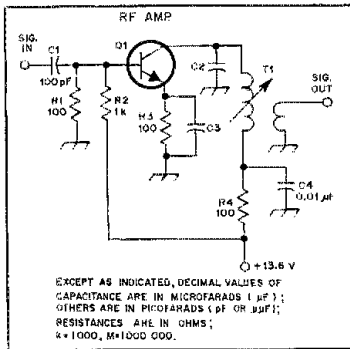

Fig. 1 — Example of a simple rf amplifier for text discussion.
1) Phase 1 calls for visual inspection of the components that are related to the stage being examined. We will inspect the resistors for discoloration or fine cracks. A magnifying glass or jeweler's loupe is practically mandatory for this part of the check. A discolored resistor usually means that excessive current has been flowing in that branch of the circuit. Discoloration or cracking is caused by overheating of the component. These defective resistors are apt to change value significantly or become open-circuited. This prevents the correct operating voltage from reaching the tube or transistor. Fig. 1 illustrates a simple rf amplifier that could have one or more defective resistors. Assume, for example, that R4 were defective. What might cause this resistor to be burnt or cracked? The culprit — excessive current flow — would have to be caused by some anomaly above the resistor, or the side of R4 opposite the 13.6-V supply line. What could cause this to happen? There are four potential sources of the difficulty: (1) Q1 could be shorted and drawing excessive current; (2) resonating capacitor C2 might be shorted; (3) decoupling capacitor C4 might be shorted internally; (4) emitter bypass capacitor C3 could also be shorted, which could permit Q1 to draw high current and become shorted. A fifth possibility would be the input blocking capacitor, C1. If it were shorted there might be too much dc voltage at the base of Q1, thereby making it draw excessive current or burn out. If this were the bad capacitor, R1 might be defective also, because of excessive current flow through it.
(Fig. 1), or if the voltage is very low, turn off the supply voltage and remove Q1 from the pc board. Repeat the voltage check at the high side of R4. If normal operating voltage (or slightly more) appears above R4, it is safe to conclude that Q1 caused the failure. If the bias voltage at the junction of R1 and R2 is normal, the transistor is probably shorted and needs to be replaced. It is suggested that you test C3 for leakage or short-circuiting with your ohmmeter if Q1 is defective. If C3 is shorted, it will permit the emitter of Q1 to be at dc ground, thereby negating the value of R3 as an emitter-bias resistor. This will increase the current drawn by Q1.
the base, collector and emitter of Q1, search for leaky or shorted capacitors as in Phase 1; they will cause too low a reading. If the capacitors are okay, then lift one end of each resistor from the pc board and check the resistance with your ohmmeter. Replace any resistor that is more than 30% removed from the specified value. Finally, if all components appear to be normal, replace Q1 and repeat the voltage measurements. Of course, if during your tests you found a voltage that was far too high, check for decreased resistance at R2 and R4. A high reading might also be caused if R3 of Fig. 1 had too high a resistance from the marked value.